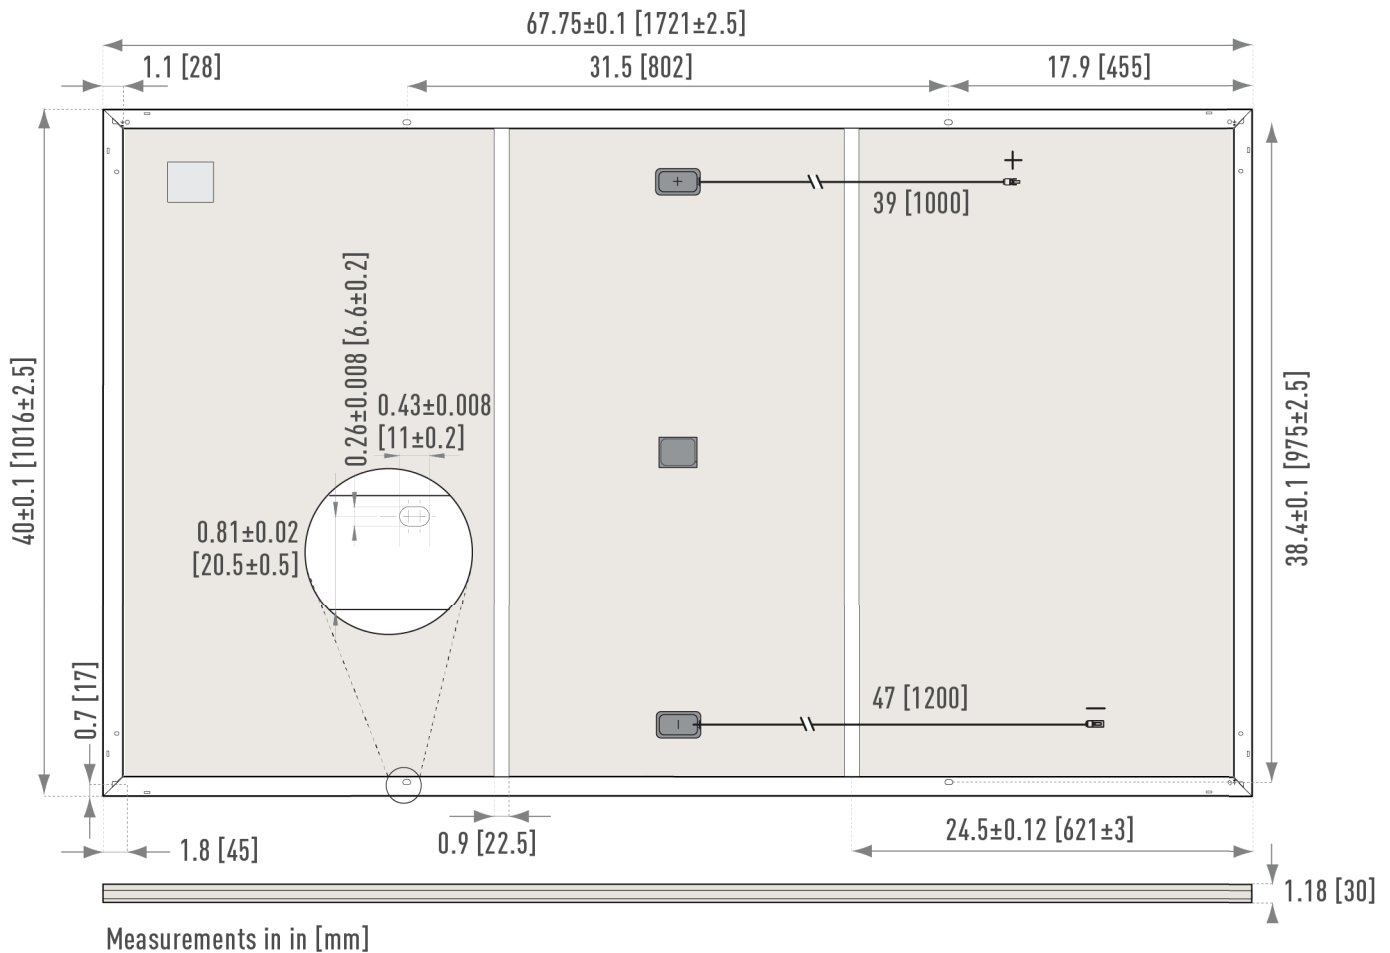

Figure 1. Module Dimension for EVPVxxx and EVPVxxxK Series
- Module specifications are shown in Table 1, 2 and Figure 1, 2, 3. (Electrical specifications, mechanical specifications, module dimensions)
- Each terminal is dedicated to one polarity (with the polarity symbols engraved onto the body of the junction box) (see Figure 1).